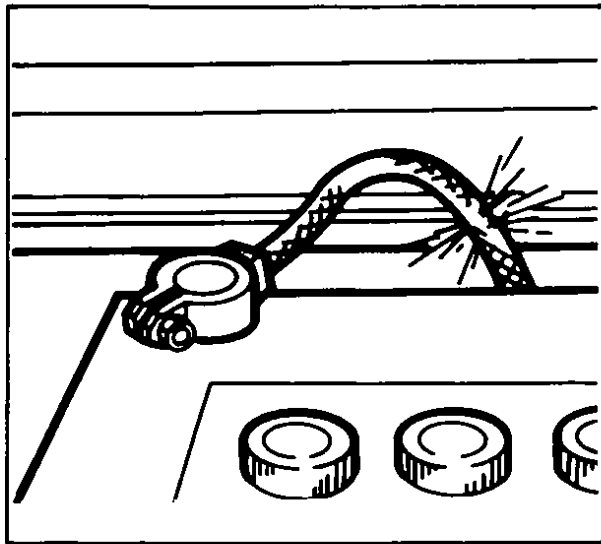

Fig 59 Inspect battery cables
- 3 Check the ends of the cables to be sure they are not frayed and to see that the cable insulation has not been damaged, Fig 59 Poor insulation can allow the cable to ground against the car body or other point, producing a short Replace any damaged or frayed cables immediately